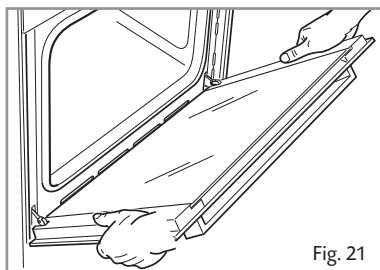

Fig. 21
- Hold the door as shown in fig. 21.